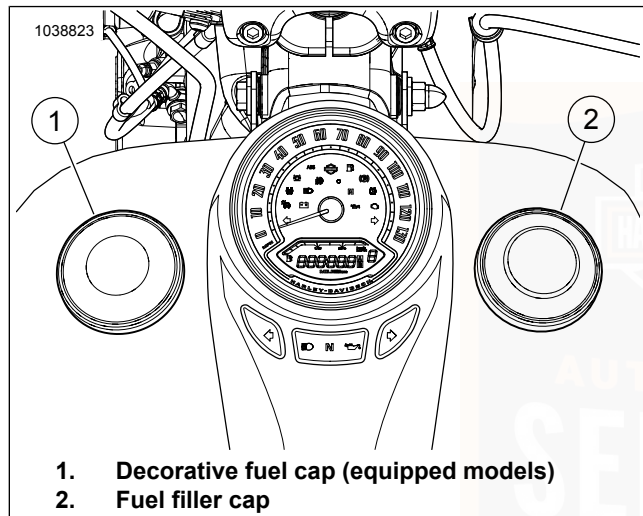

Figure 7. Fuel Tank
See Figure 7. Decorative fuel cap (1) is only to be removed if needed for cleaning the motorcycle.
See Figure 7. Turn fuel filler cap (2) counterclockwise to remove. The cap turns approximately three-quarters of a turn before it begins to loosen.